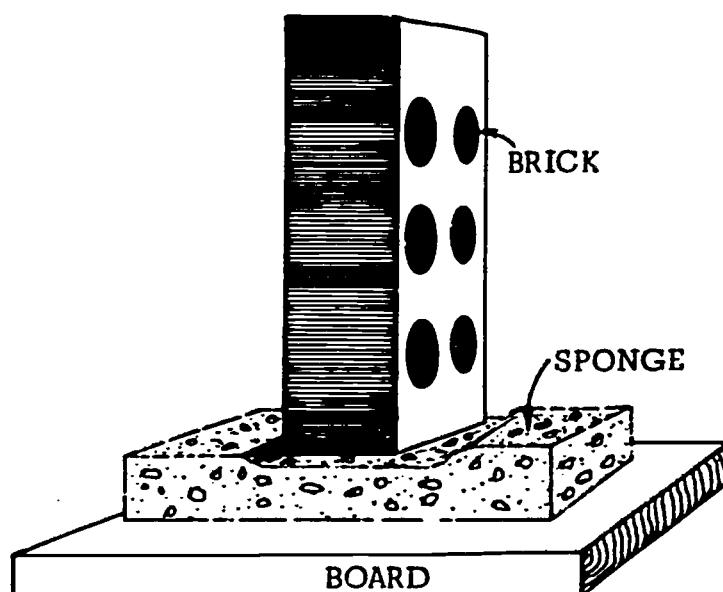

Fig. 69-4. Simulated Weight on Soil
5. With this in mind, I'll place the brick, which represents the weight of the structure, on the sponge (soil). Observe what happens. See Fig. 69-4.